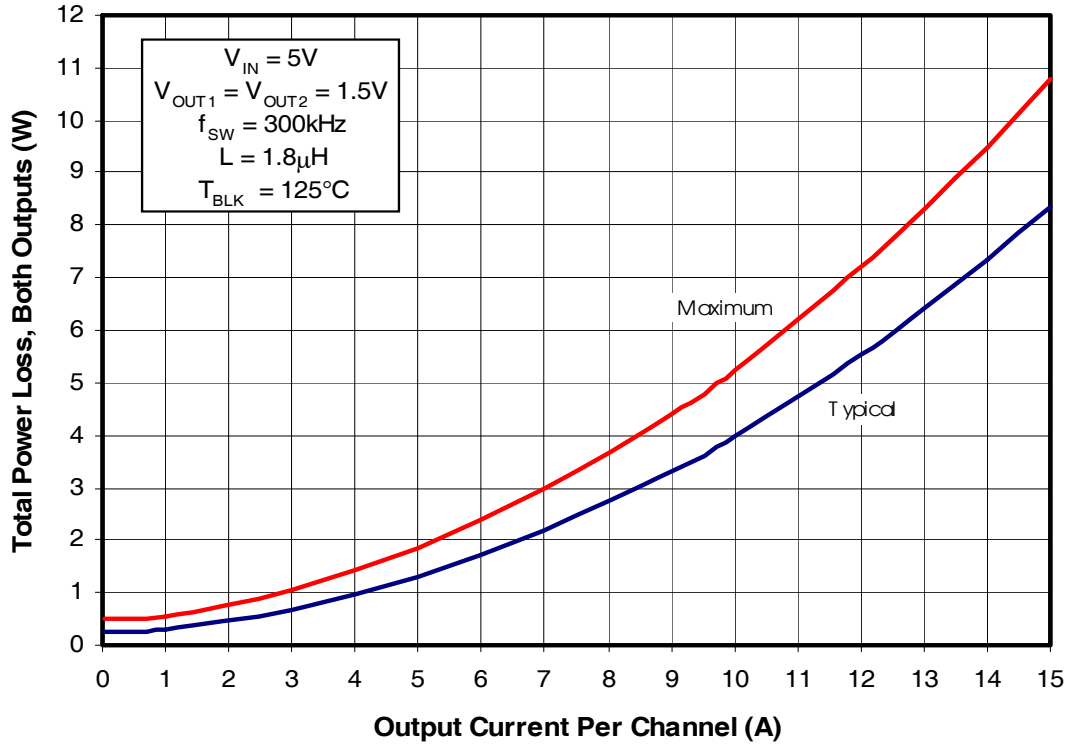
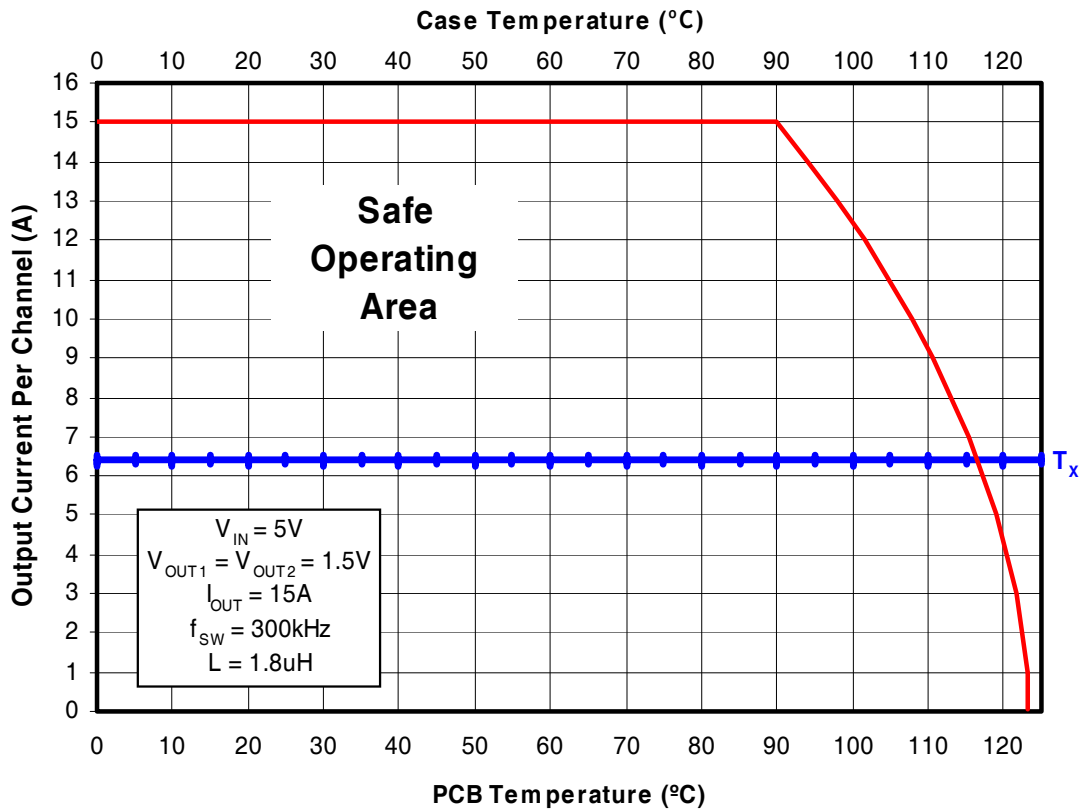
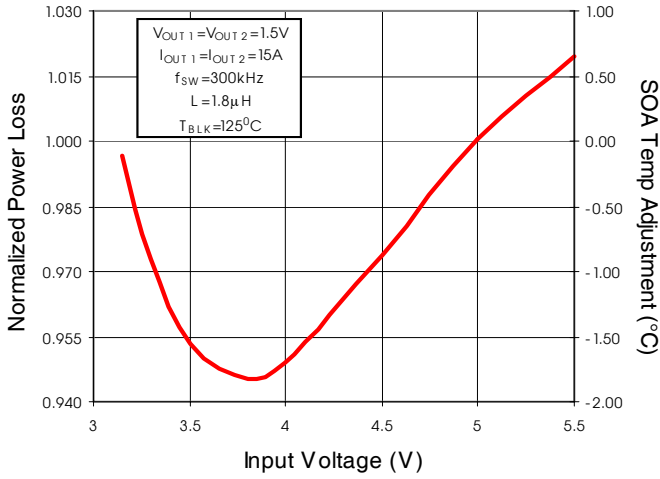

Fig. 2: Power Loss vs. Current
Fig. 3: Safe Operating Area (SOA) vs. T_{PCB} & T_{CASE}
Fig. 4: Normalized Power Loss vs. V_{IN}
To make adjustments to the power loss curves in Fig. 2, multiply the normalized value obtained from the curves in Figs. 4, 5, 6 or 7 by the value indicated on the power loss curve in Fig. 2. Remember that the power loss in Fig 2. is the power loss for 2 outputs operating with the same output voltage. If differing output voltages are used the initial power loss for each channel needs to be divided by 2. Then if multiple adjustments are required, multiply all of the normalized values together, then multiply that product by the value indicated on the power loss curve in Fig. 2. The resulting product is the final power loss based on all factors. See example no. 1.
To make adjustments to the SOA curve in Fig. 3, determine your maximum PCB Temp & Case Temp at the maximum operating current of each iP1201PbF. Then, add the correction temperature from the normalized curves in Figs. 4, 5, 6 or 7 to the T_X axis intercept (see procedure no. 2 above) in Fig. 3. When multiple adjustments are required, add all of the temperatures together, then add the sum to the T_X axis intercept in Fig. 3. See example no. 2.
- Output1 (Fig. 2) Maximum power loss = 5.3W /2 = 2.65W
(Fig. 4) Normalized power loss for input voltage \approx 0.97
- Output2 (Fig. 2) Maximum power loss = $8.25W / 2 = 4.13W$
- (Fig. 4) Normalized power loss for input voltage ≈ 0.97
- Output1 (Fig. 4) Normalized SOA Temperature for input voltage $\approx -1.0^{\circ}C$
- Output2 (Fig. 4) Normalized SOA Temperature for input voltage $\approx -1.0^{\circ}C$